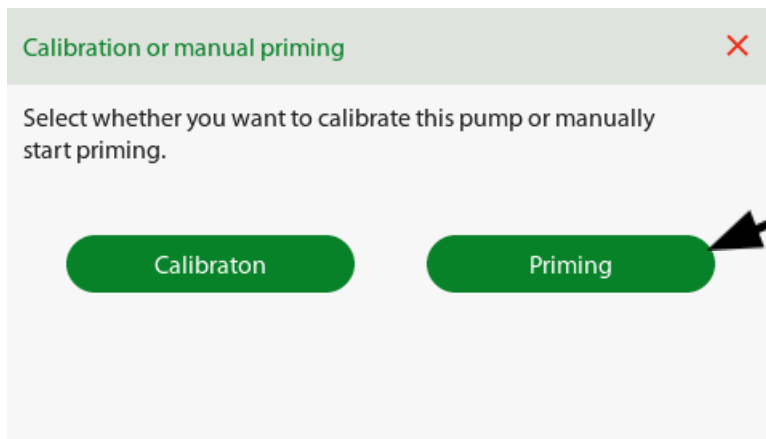

Figure 39
2. Then click on '**Priming**' (see Figure 39).